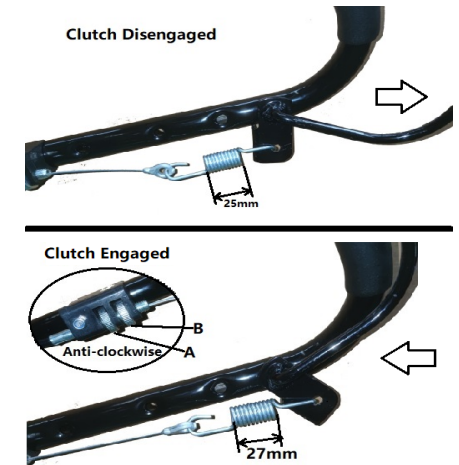

figure 17 . Clutch adjustment
When finished, use the thumb wheel (B) for locking. Refer to figure 17.
### Adjusting the Drive Cable-refer figure 17.
- ★ Measure the length of the clutch spring(18mm) when the clutch engagement lever is in the disengaged position. Refer to figure17.
- ★ Push the clutch engagement lever forward until it touches the handlebar (drive engaged position). The clutch spring should be stretched to 28mm (10mm longer). Refer to figure 17.